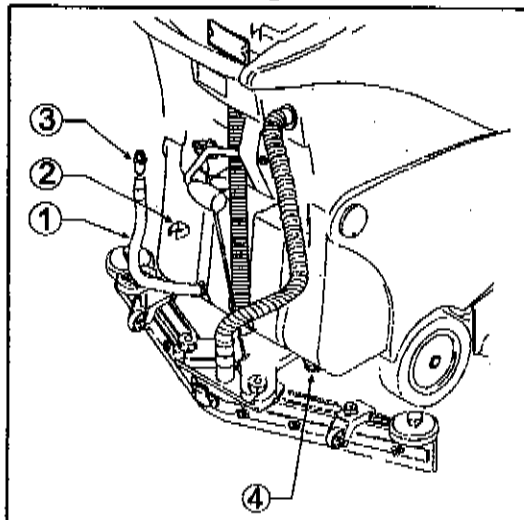

Fig. 11
- detach the drain hose (fig. 11, ref. 1) from its seat, holding it in correspondence with the fixing spring (fig. 11, ref. 2) and pull it horizontally;
- keeping the hose end as much high as possible, take off the drain cock (fig. 11, ref. 3) from the hose by unscrewing it;
- when the contents have been totally drained from the solution tank, close the drain hose with the cock (fig. 11, ref. 3) screw-tightening it; check that it is perfectly closed and refit the hose in its housing.